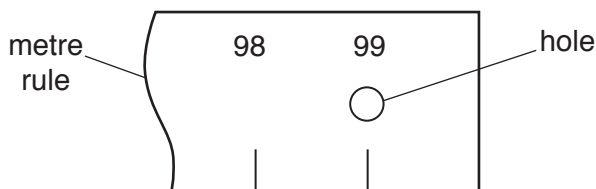

Fig. 1.1
- 1 One of the metre rules should have a hole of approximate diameter 2 mm drilled centrally at the 99 cm mark as shown in Fig. 1.1.